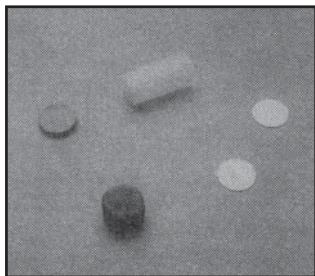

Figure 5
3. There are two basic categories of wads. (See Figure 5.)
5. Characteristics of one-piece plastic wad. (See Figure 5.)